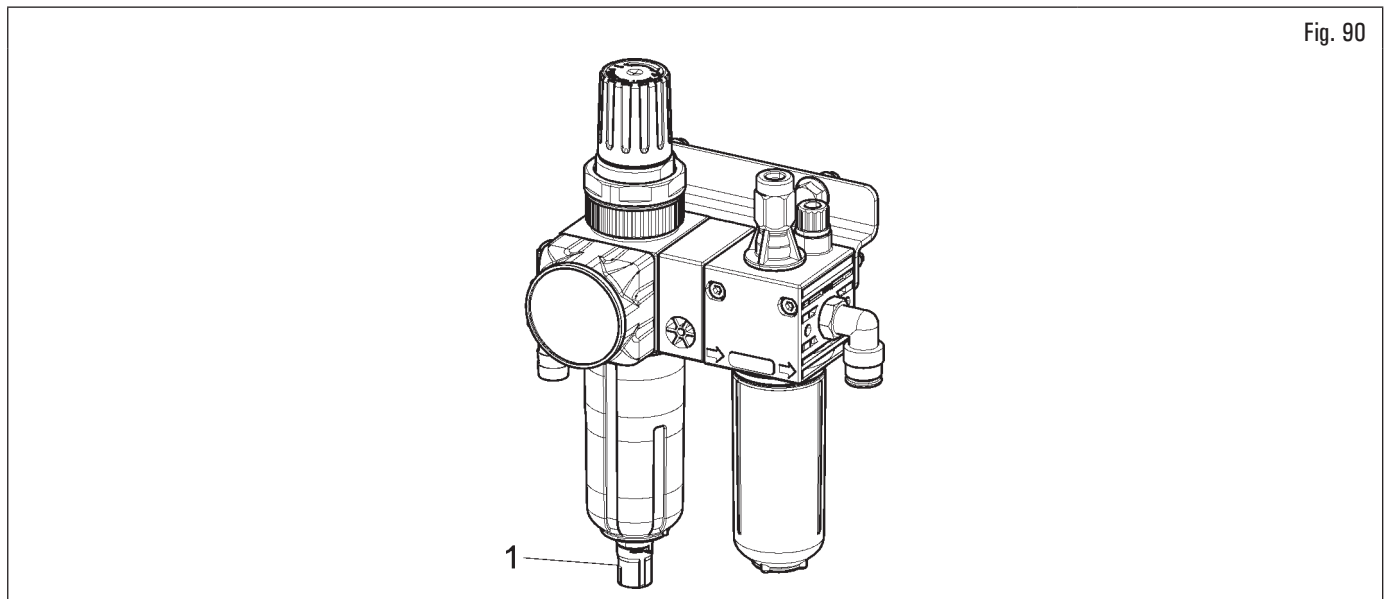

Fig. 90
- The conditioning assembly is equipped with an automatic vacuum-operated drain therefore it requires no manual intervention by the operator (see Fig. 90).
In order to ensure a good functioning and to avoid the presence of condensation in the air treatment assemblies with semi-automatic drain, it's necessary to make sure about the correct position of the valve (Fig. 90 ref. 1), placed under the cap. To activate a correct drain function, the cap must be rotated in the right way.